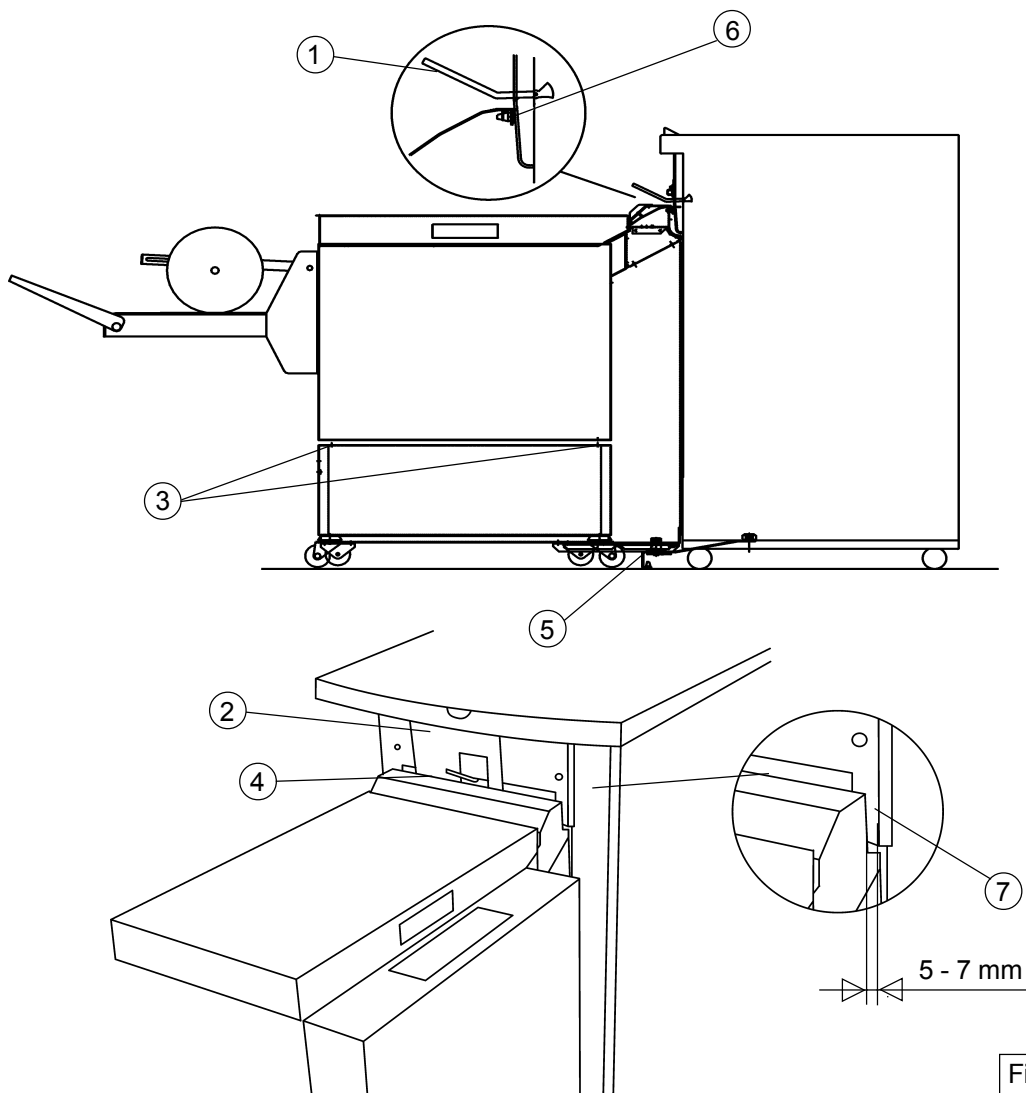

Figure 13
1. Make sure the exit paper arm is in the upper position (1), figure 13. Turn on the printer the shift tray will go down to the lower position. Turn off the printer.
2. Take the template (2) and hold it to the output on the printer. Adjust the height on the Bookletmaker by adjusting the four nuts on the Bookletmaker with the caster tool (3). The caster tool is located behind the front cover on the Bookletmaker. Raise or lower the casters to achieve the correct height. The lower edge on the template should be against the stainless plate at the infeder (4), figure 13.
3. Adjust the gap between the infeder assembly and the printer, adjust by moving the two positioning pins (5) with the caster tool. The two black studs on the infeder assembly should have contact with the printer cover (6), figure 13.
4. Adjust the distance between the front of the Bookletmaker infeder and the front of the Printer panel (7). Adjust by moving the two positioning pins (5) with the castor tool. The distance should be 5 - 7 mm, figure 13.